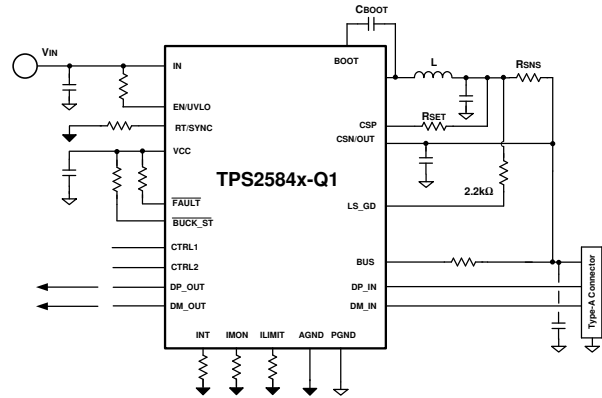

图 10-16. Buck Average Current Limit
- Buck Average Current Limit 图 10-16: